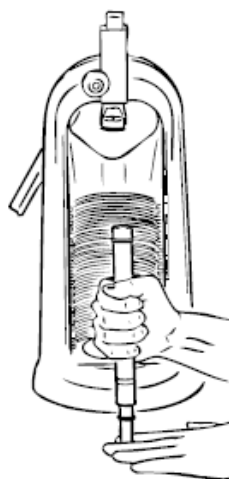

Figure 3: Starting the seal
- 3) **Immediately** push the **D** end of the collector tube over the open end of each sample tube to start the seal (Figure 3).
- 4) Place the assembly in the press (Figure 3), putting the sample tube through the hole in the white base. Before pressing, the user should grip the collector tube firmly at the breakaway point to keep the tube from shifting during the pressing procedure.